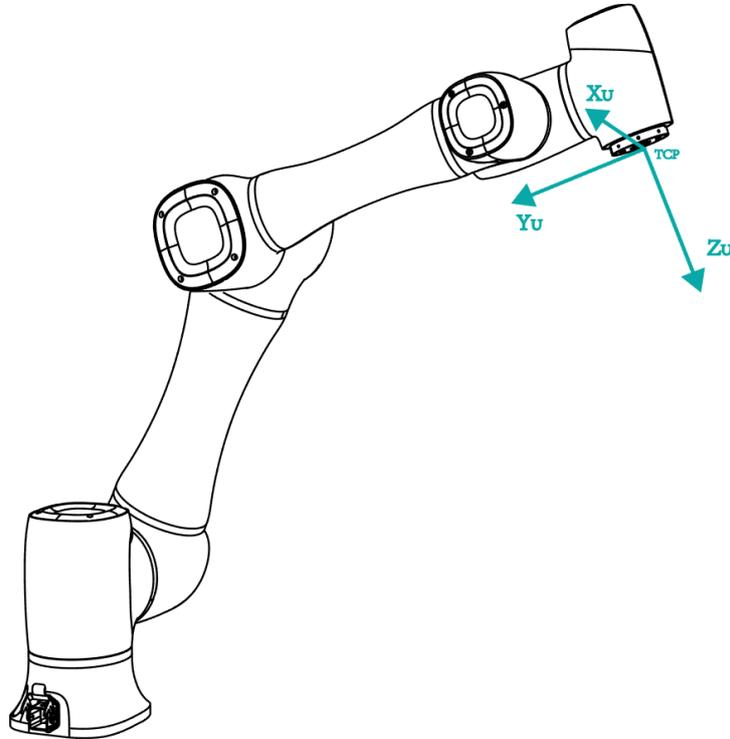

Figure 3.1 Point
- **Point:** move TCP to any point **A** to create origin, and create user coordinate system according to the default tool coordinate system As shown in Figure 3.1.